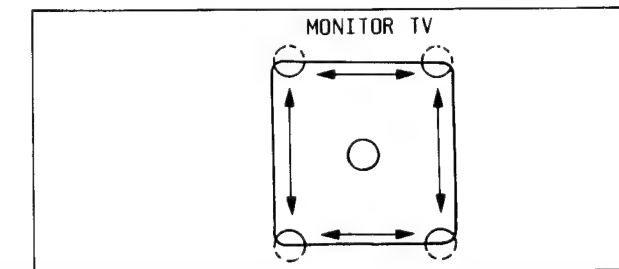

Fig. C7-2
- (2) Set the High Speed Shutter SW to "ON" position.
- (3) Connect a jumper wire between TP10 and TP11 to fully open the iris.
- (4) Adjust the Blooming Control (VR201) so that the monitored picture does not contain Blooming.
- (5) High Speed Shutter "ON" and "OFF" both confirm that the monitored picture does not contain the Blooming even if the camera is as shown in Fig. C7-2.